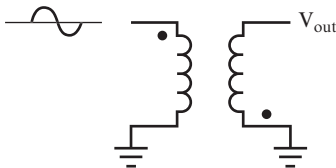

FIGURE 10.13
3. If a sine wave is fed into a transformer shown in Figure 10.13, what does the output waveform look like? _____